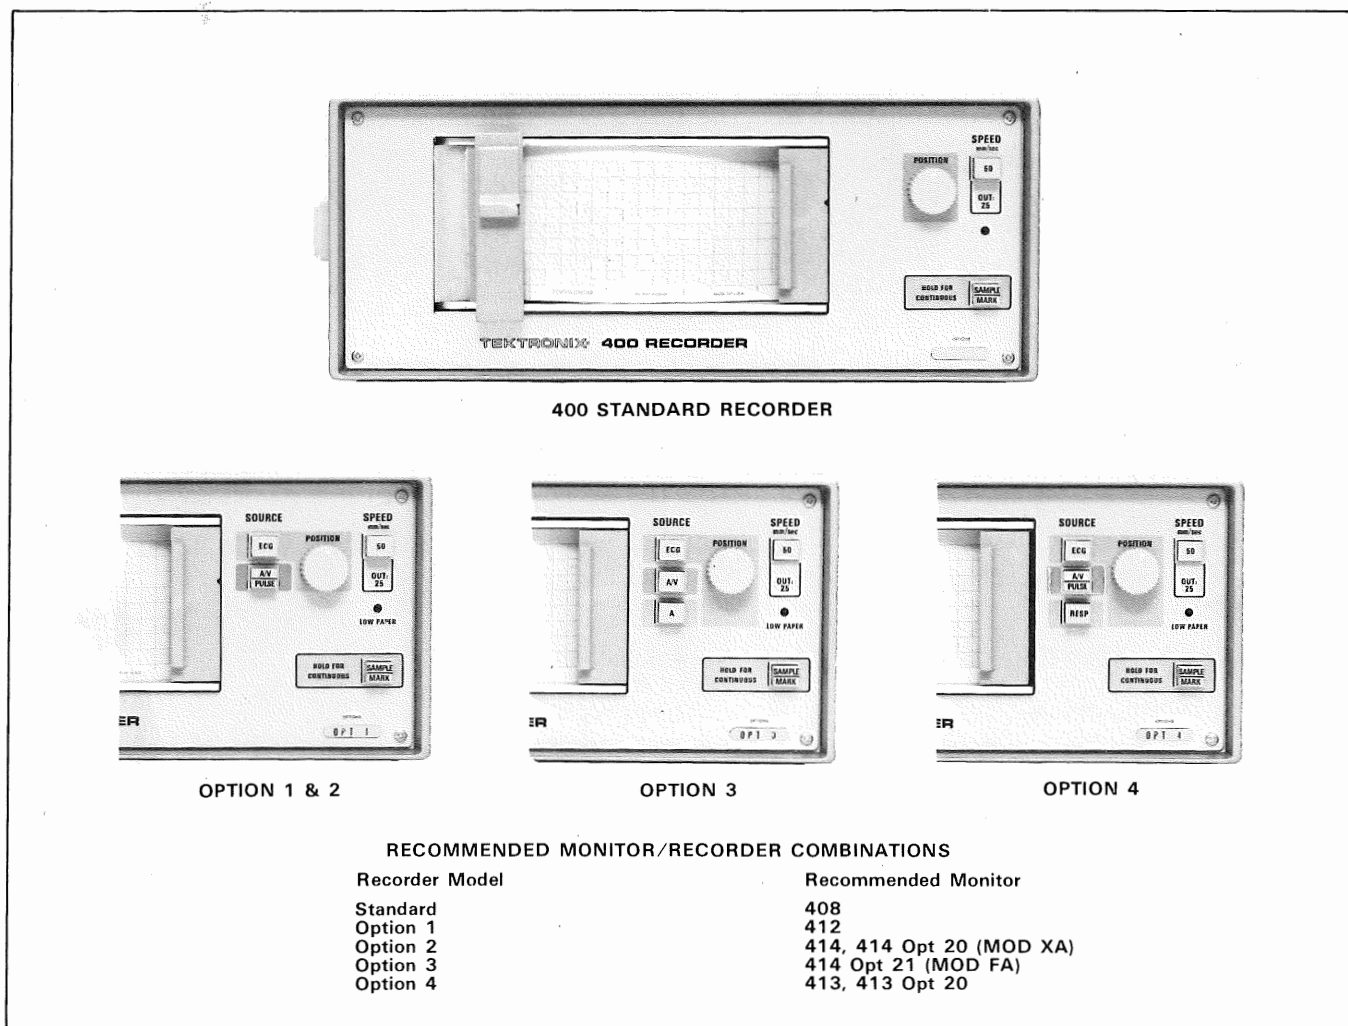

Figure 1-1. Recorder models and recommended Monitor/Recorder combinations.
The 400 Recorder is a strip chart recorder (direct writer) which attaches directly to a Tektronix Patient Monitor. Five versions of the 400 Recorder are available (Standard, Option 1, Option 2, and Option 3) to match the capabilities of the 408, 412, and 414 Series Patient Monitors, and Option 4, to match the 413 Series Patient Monitors. Although each model of Recorder is designed to complement a particular monitor's capabilities, any Recorder model can be used on any of the above series monitors with certain feature limitations. To optimize feature matching, refer to Figure 1-1 for the recommended Monitor/Recorder combinations.
The electrical specifications in Table 1-1 apply when the following conditions are met: (1) The recorder must have been mated to an appropriate Tektronix monitor (see Fig. 1-1), (2) the instrument must have been adjusted at an ambient temperature between +20 and +30 degrees C (+68 and +86 degrees F), and (3) the instrument must be operating in an ambient temperature between 0 and +50 degrees C (+32 and +122 degrees F).